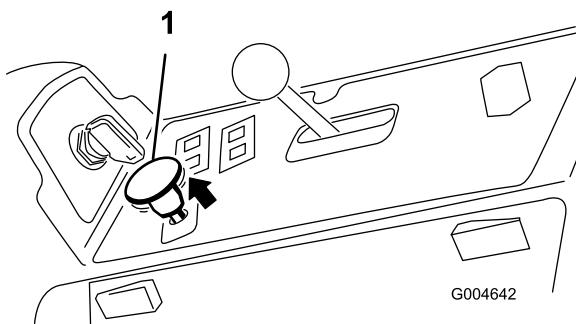

Figure 22
3. Pull up on the PTO switch to engage it (Figure 22).